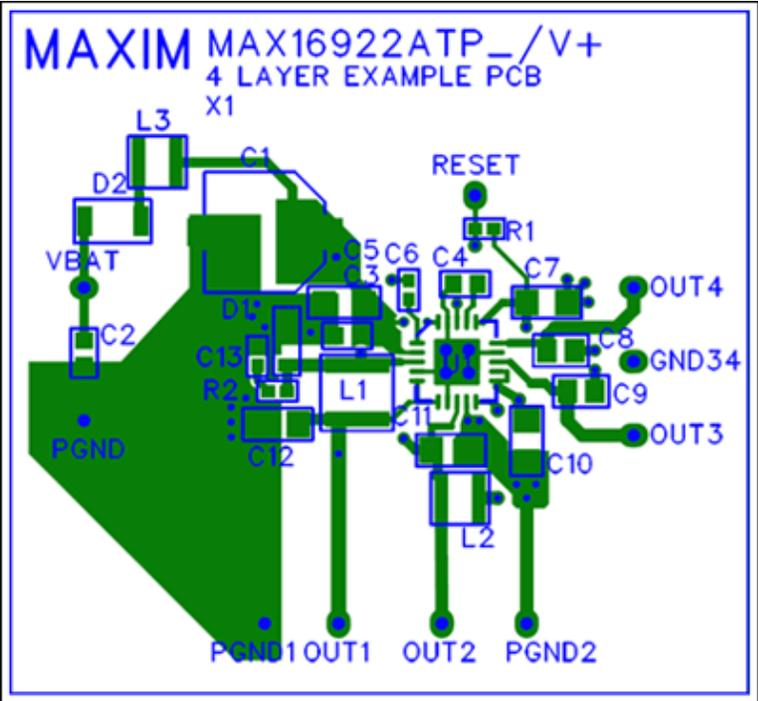
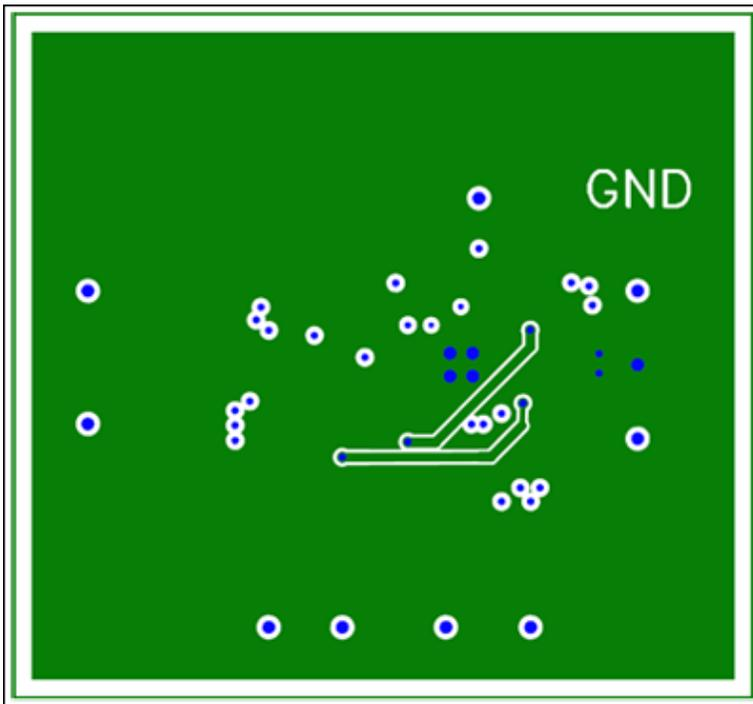
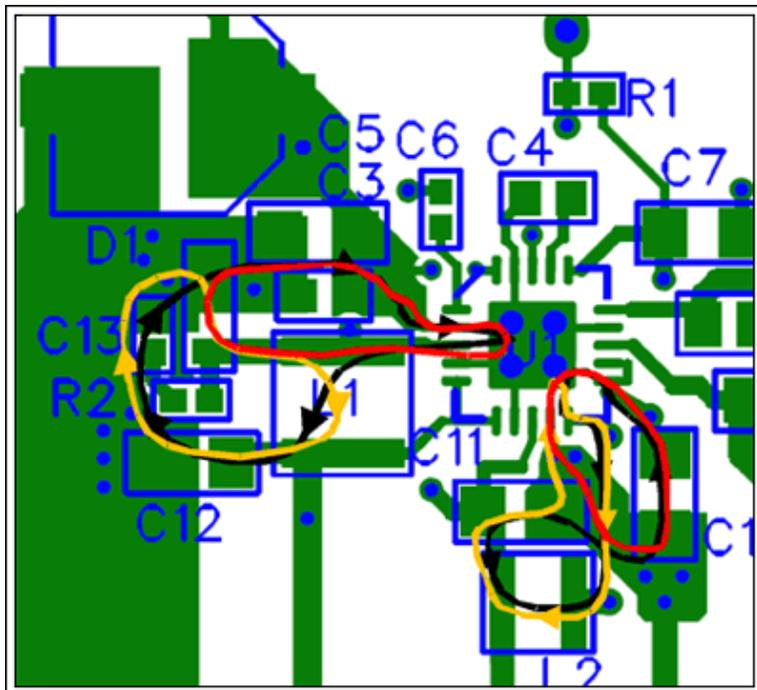

Figure 8. Top layer.
Figure 11. Inner Layer 2, ground.
Figure 12. Current paths: black is the ON cycle; orange is the OFF cycle; red is the difference.
**Figures 8** through **Figure 11** show an example of a four-layer layout using the guidelines in this application note. **Figure 12** highlights the critical AC- and DC-current paths ON and OFF in the layout.